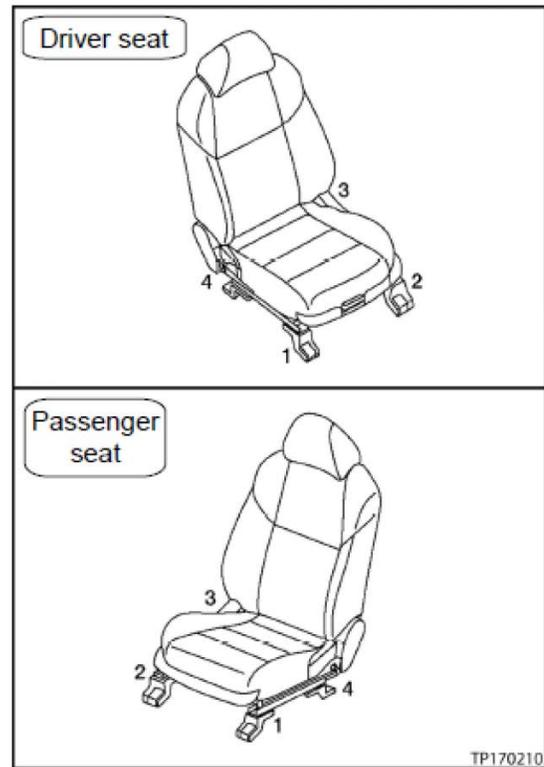

Figure 33
- Torque the seat bolts in the order shown in Figure 33.